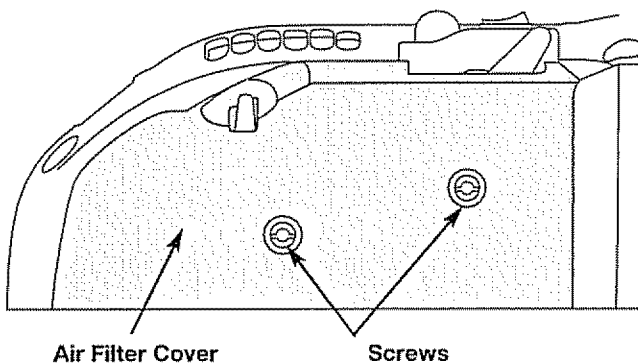
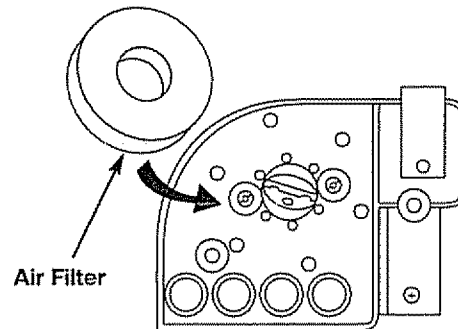

Fig. 16
Fig. 17
2. Remove the screws on each side of the carburetor/air filter cover assembly. Remove the carburetor/air filter cover (Fig. 16).
3. Remove the air filter (Fig. 17).
7. Reinstall the filter (Fig. 17, Pg 15)
8. Reinstall the carburetor/air filter cover and screws (Fig. 16, Pg 15). **Do not over tighten.**
6. Reinstall the filter (Fig. 17, Pg. 15), carburetor/air filter cover and screws (Fig. 16, pg. 15).